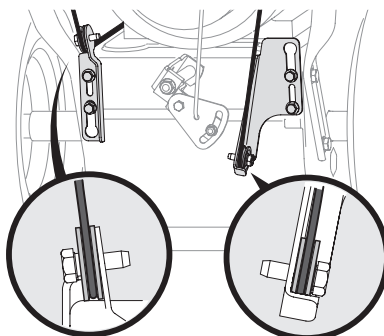

Figure 2-4
4. Observe lower rear area of equipment to be sure both cables (if equipped) are aligned and seated properly in roller guides. See Figure 2-4.